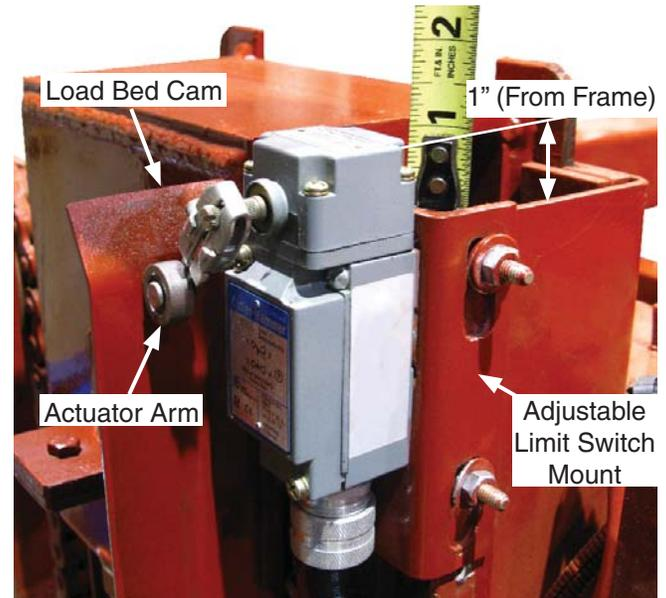

Figure 37 - Limit Switch - 16 Adjustment
1. Adjust the arm so it is positioned properly to touch the cam. The arm should not be positioned such that it will bind and bend when contacting the cam surface. This will happen if the roller is adjusted to contact the surface at a perpendicular angle (see Figure 37).